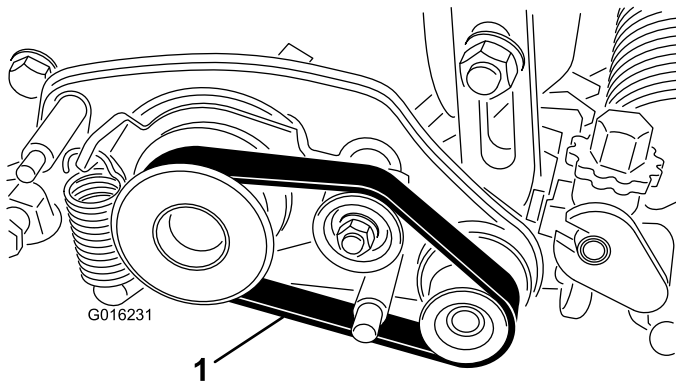

Figure 27
2. Remove the belt from the driver pulley, idler pulley, and driven pulley (Figure 27).